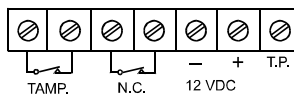

Figure 12. Terminal Block Wiring
- D. Connect wires to terminal block in the following order (Fig. 12):
The test point T.P. terminal provides a good means for analyzing the sensor in the event of an environmental problem or suspicion of a faulty sensor. Using a DC voltmeter (20K ohms per Volt), connect its positive lead to the T.P. terminal and the negative lead to the (-) VDC terminal. See Figure 12.